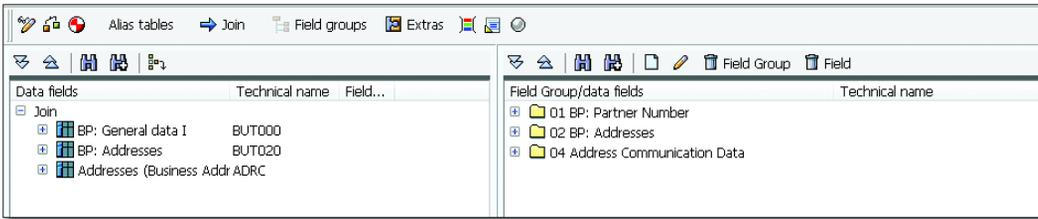

Figure 5.58 Displaying Table Joins for the InfoSet
2. Click JOIN to view the list of the table joins, as shown in Figure 5.58.